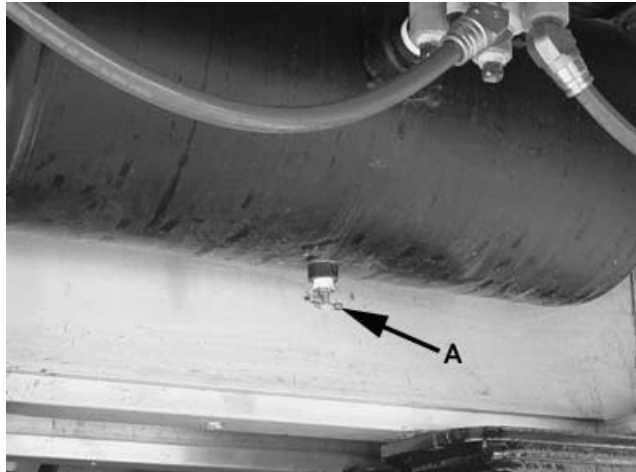

Figure 7-3 – Drain Trailer Air Tanks
Drain moisture from trailer air tanks by opening petcock (A) on the bottom of each air tank. See Figure 7-3. Close petcocks after draining.